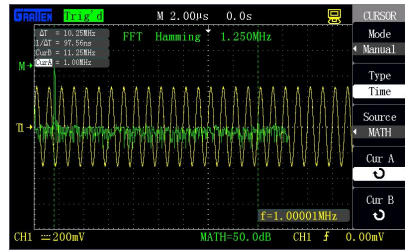

Figure 2-21 Cursor measurement of spectrum frequency
- 5) The value of CurA on the screen is the frequency of the highest point of the FFT spectrum, and the frequency should be equal to the frequency of the input signal, as shown in figure 2-21.